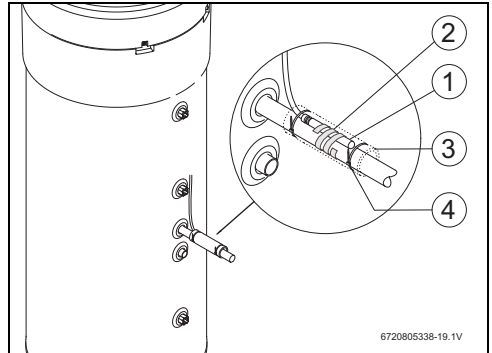

Fig. 12
- ▶ Position the temperature sensor NTC of the accessories [1] as shown in Fig. 12.